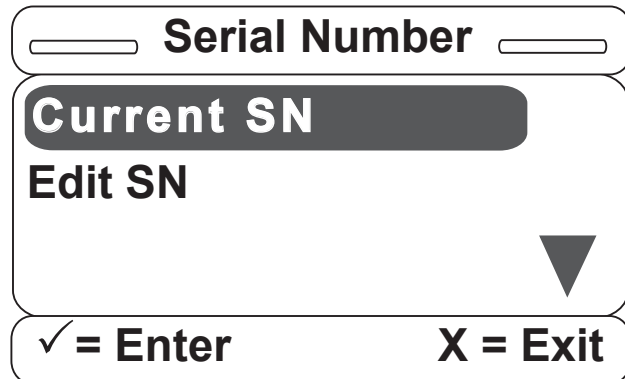

Figure S-23
23. There are two options available, as shown in Figure S-23. The Current SN item will display the saved serial number, while the Edit SN item will allow the user to edit the existing serial number.